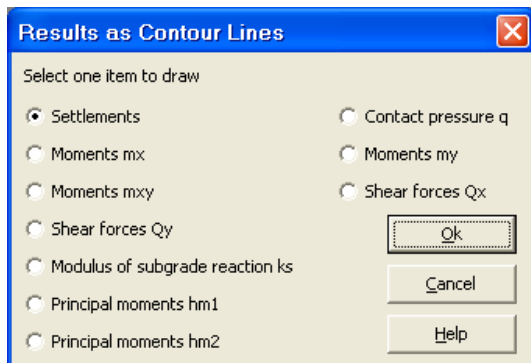

Figure 10-39 "Results as contour lines" option box
- Choose "Results as contour lines" command from "Graphic" menu of *ELPLA-Graphic*. The following option box in Figure 10-39 appears